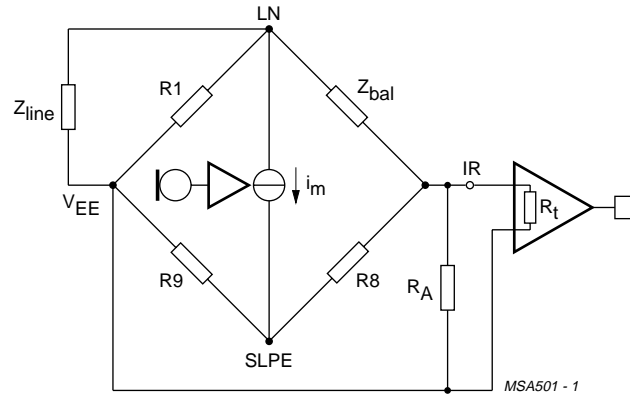

Fig.11 Equivalent circuit of an anti-sidetone network in a Wheatstone bridge configuration.
(2) The attenuation is almost constant over the whole audio-frequency range. Figure 11 shows a conventional Wheatstone bridge anti-sidetone circuit that can be used as an alternative. Both bridge types can be used with either resistive or complex set impedances. More information on the balancing of anti-sidetone bridges can be found in our publication "Applications Handbook for Wired telecom systems, IC03b", order number 9397 750 00811.